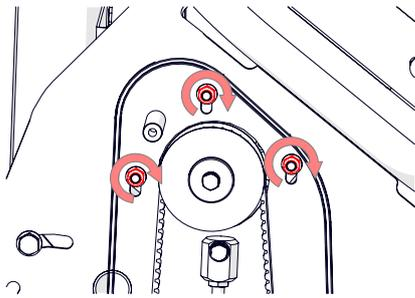

Fig.14J - Tighten the motor 3 x top nuts.
10. Tighten the 3 x top nuts [2 x 13 mm spanner] supporting the motor - secure from the inside of the machine and tighten from the outside (Fig.14J).